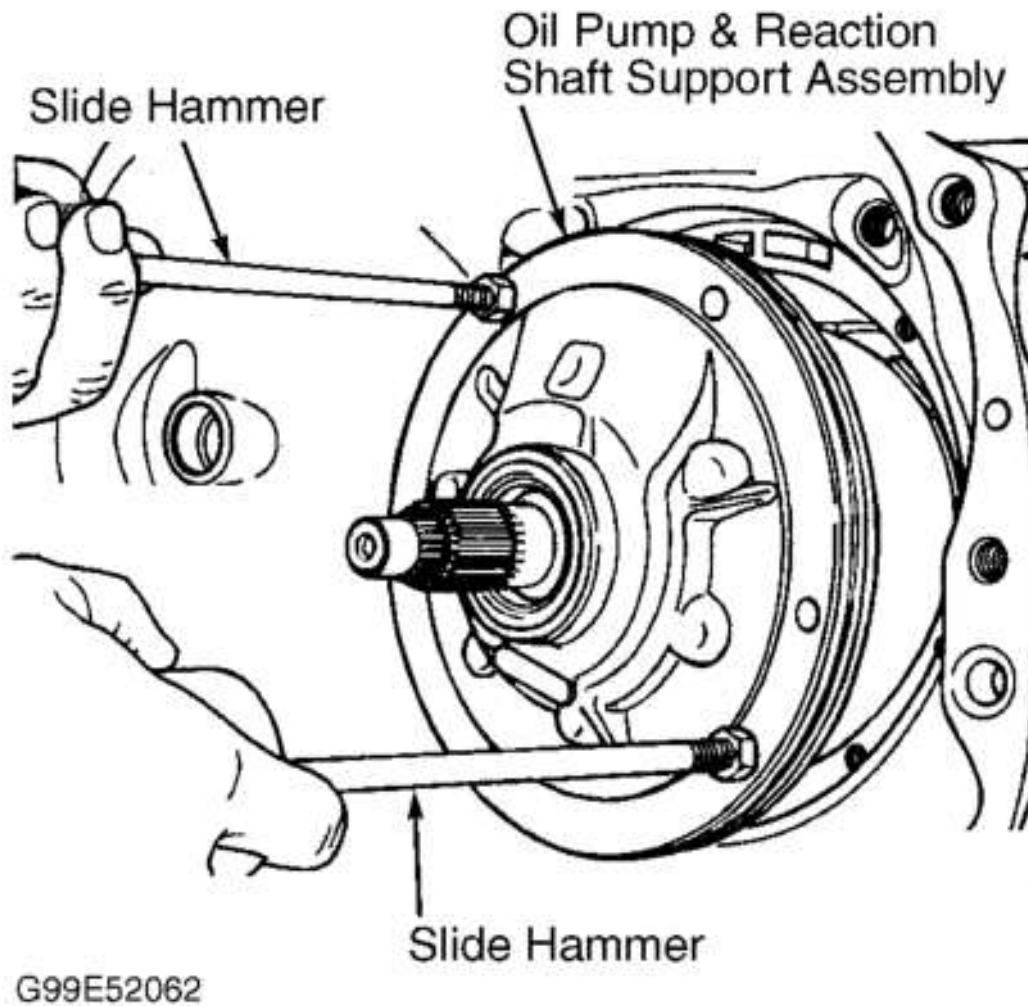

Fig. 13: Removing Oil Pump
8. Remove oil pump bolts. Install slide hammers on opposite sides of oil pump. Pull oil pump from transmission case. See **Fig. 13** . Remove oil pump gasket.